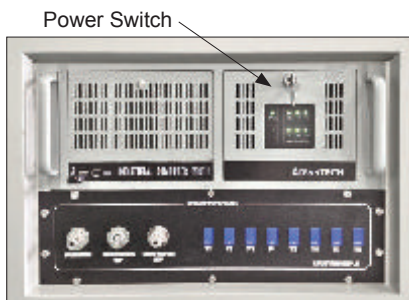

Figure 5-10 SEC PC Power Switch
- 5) Turn on the system computer by pressing the switch indicated in Figure 5-10. View the touchscreen and wait until the Windows program and desktop screen is displayed.